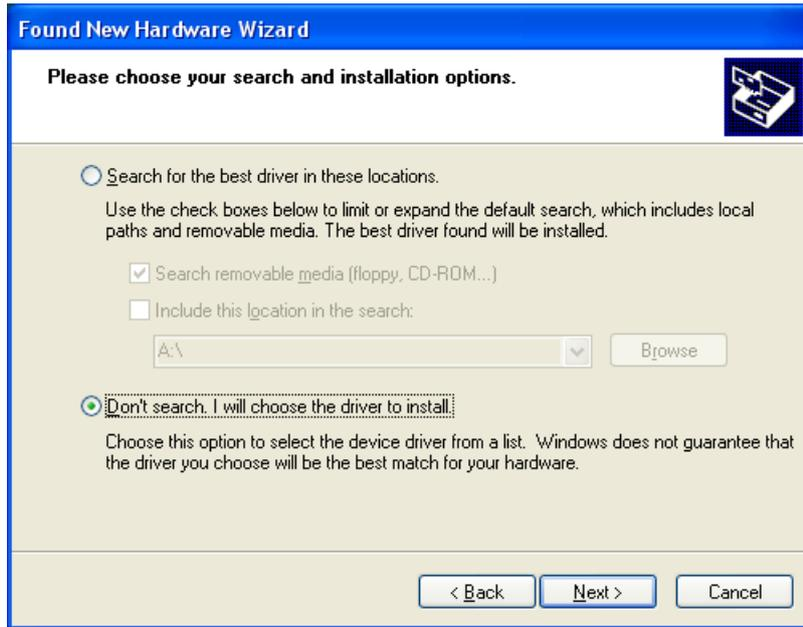

Fig. 3-2 Choose search and installation option
- 3) A dialog box as Fig. 3-2 will pop up. Select “Don’t search, I will choose the driver to install”, click [Next] to continue.